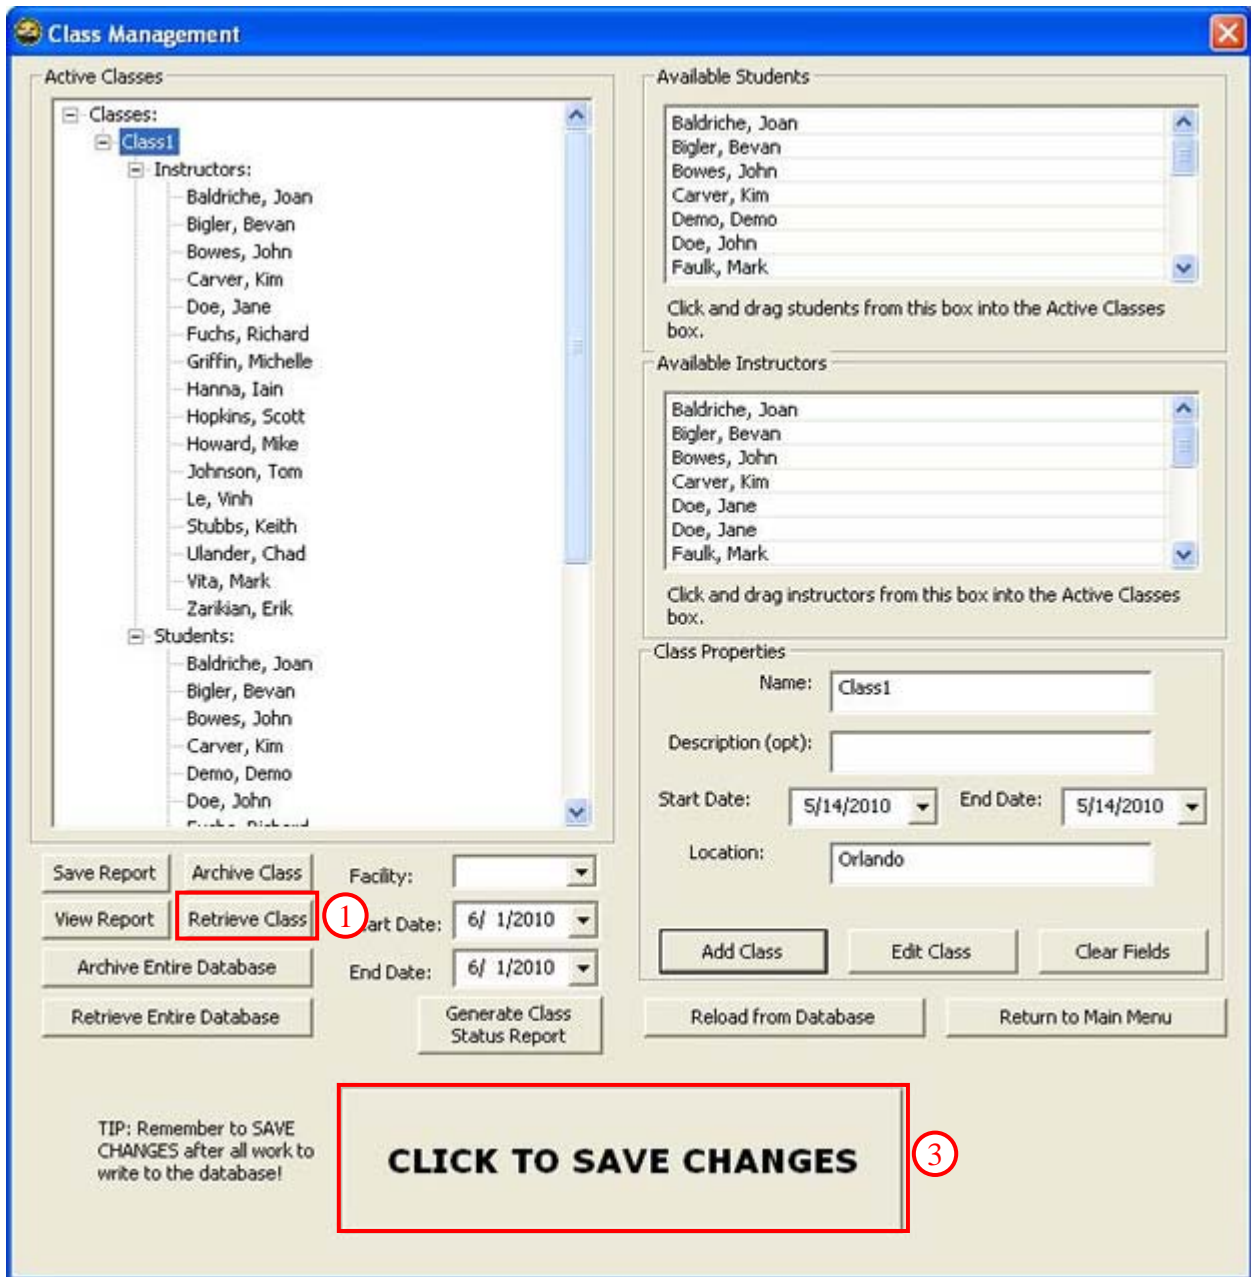

Figure 92. Class Management - Retrieve Class
1. Click the [RETRIEVE CLASS] button (Figure 92).